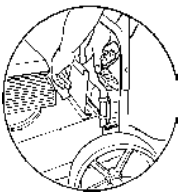

Fig. 2
1. **ASSEMBLE** Lift upper handle (item 11), remove items 34, 32, and 33 from lower handle (item 10). Attach and secure upper handle as shown using same hardware.
2. **UNFOLD** the debris bag (item 21) and fasten bag neck to bag quick disconnect (item 12). Attach firmly to housing exhaust (item 1) see fig. 2.
3. **ATTACH** bag hanger strap to bag supports (item 13), preassembled to upper handle.